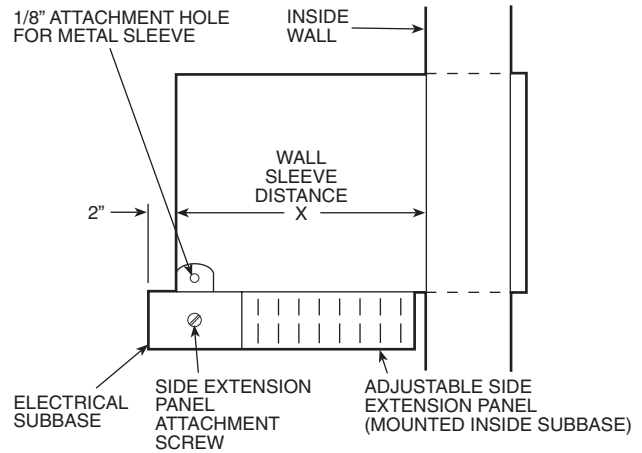

Fig. 3 — Optional Adjustable Side Extension Panels with Hardwire Electrical Subbase
Step 3 (Optional) — Adjustable Side Extension Panels can be attached to cover open space left between subbase and wall. Determine the distance from inside wall to front of wall sleeve. See Fig. 3, dimension X.